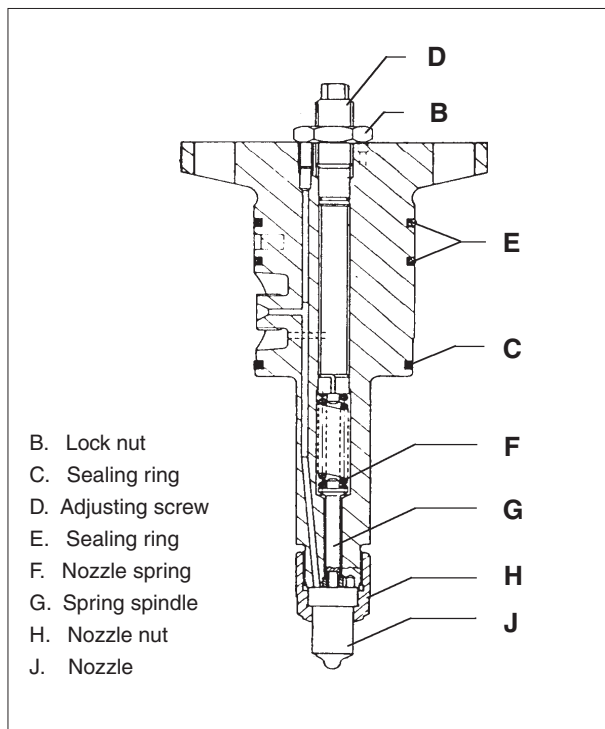

Fig 2 Fuel injection valve.
2. Mount the fuel injection valve into the clamping bracket VTO-W020 (see plate 52014, item 025) on the pressure testing pump, and loosen the lock nut (B) fig 2. Unstress the nozzle spring by turning the adjusting screw (D).
3. Clean the lower part of the nozzle (J) from carbonized oil deposits before dismantling the nozzle nut (H). Remove the nozzle nut (H) and the nozzle (J).